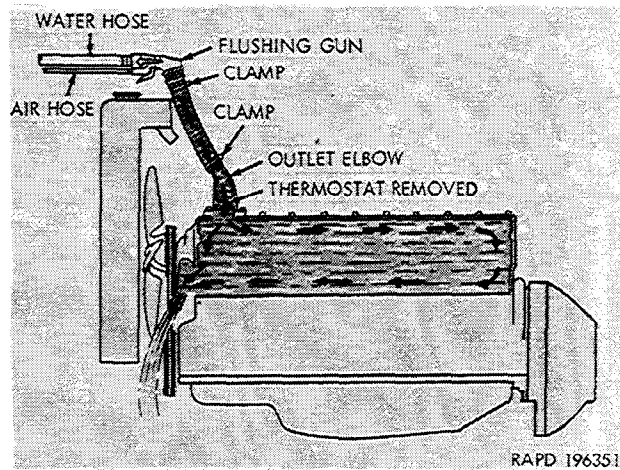

Figure 2-117. Pressure flushing engine block.
(2) To flush the engine block (fig. 2-117), proceed as in (a) through (e) below.
(d) Clamp the flushing gun nozzle firmly to a length of hose attached securely to the outlet elbow (fig. 2-117), and fill the engine with water, partially covering the opening in the water pump to insure complete filling.